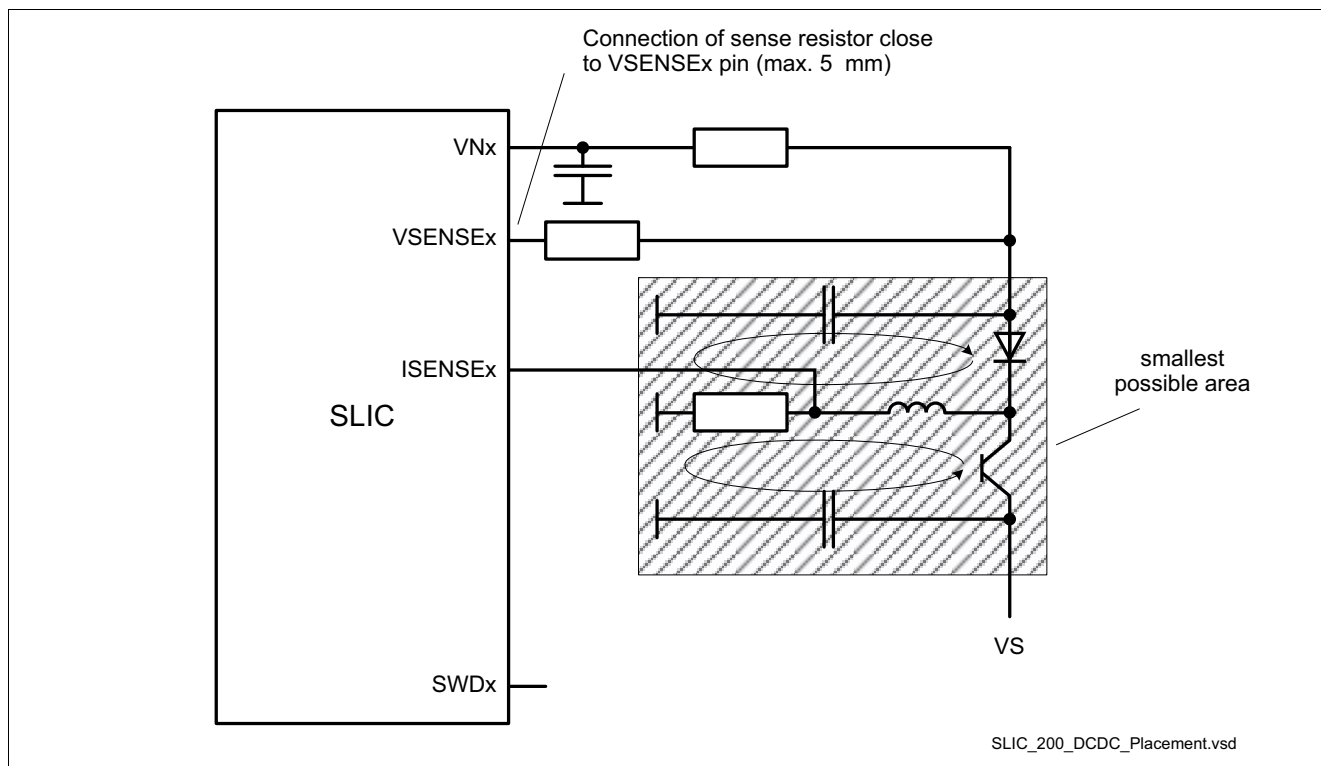

Figure 12 DC/DC Converter Component Placement
- The centralized capacitor for the SLIC supply $C2$ must be placed at the power connector, VS (see Figure 12).
- Each channel should have a 22 μ F (minimum value) blocking capacitor, which must be placed close to the input pins of the DC/DC converter circuitry (see Figure 12).
- The components of the DC/DC converters must be placed on the smallest possible area, the traces must have a minimum width and coupling to the analog part must be minimized to avoid noise (Figure 12).